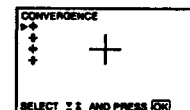

Fig. 3
- Select "CONVERGENCE" with Δ + or ∇ - and press OK. The CONVERGENCE menu appears. (See Fig. 3.)